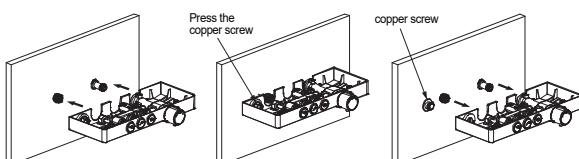

Figure 5
- Press the copper screw on the wall then remove the thermostatic shower panel. Mark the position of the copper screw on the wall (Figure 5).